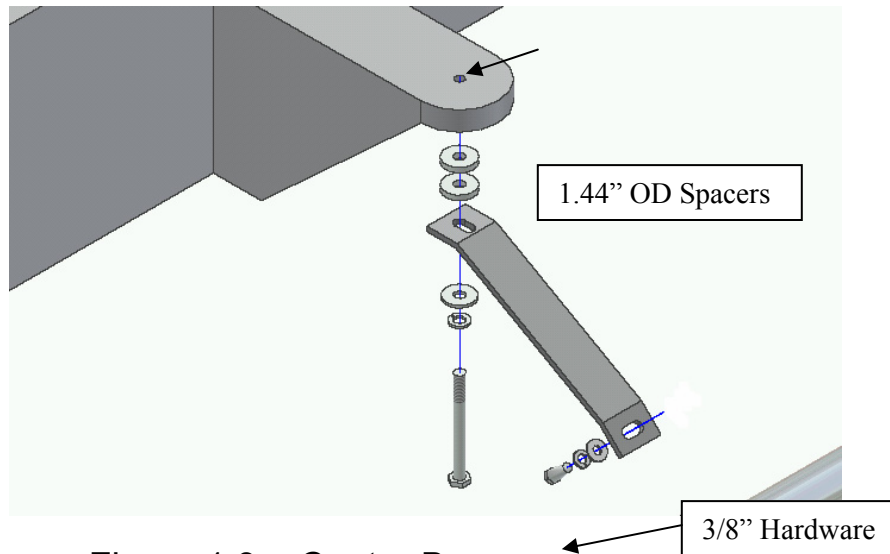
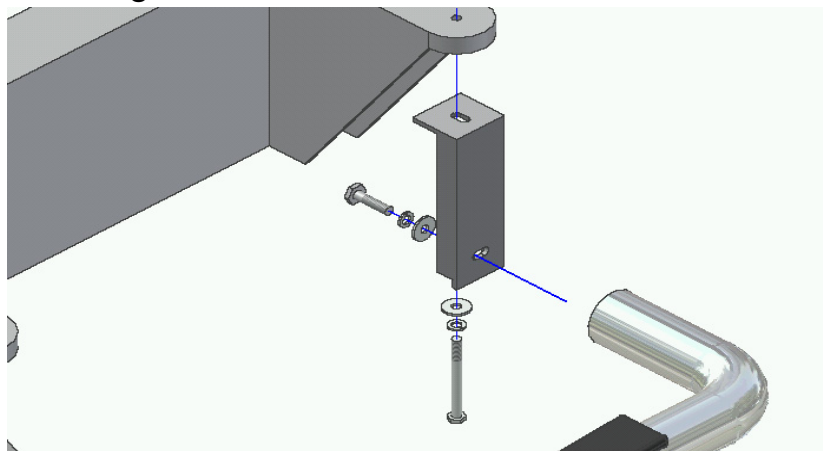

Figure 1.3 – Center Brace
Figure 1.4 – Rear Bracket
3. Attach and secure Rear Mount Bracket to underside of vehicles rear body mount as shown in Figure 1.4, in same manner as the front. Repeat for Center Brace, but insert (2) 1.44" OD spacer washers between Center Brace and center body mount (see Figure 1.3).
4. Attach Side Tube to Front and Rear Brackets using (1) ½" x 2" bolt, (1) ½" lock washer and (1) ½" flat washer for each bracket, and hand tighten. Fasten Center Brace to Side Tube using (1) 3/8" x 1" bolt, and (1) 3/8" flat washer. Adjust Side Tube so that it is level and centered, and tighten all bolts to complete the driver-side assembly.